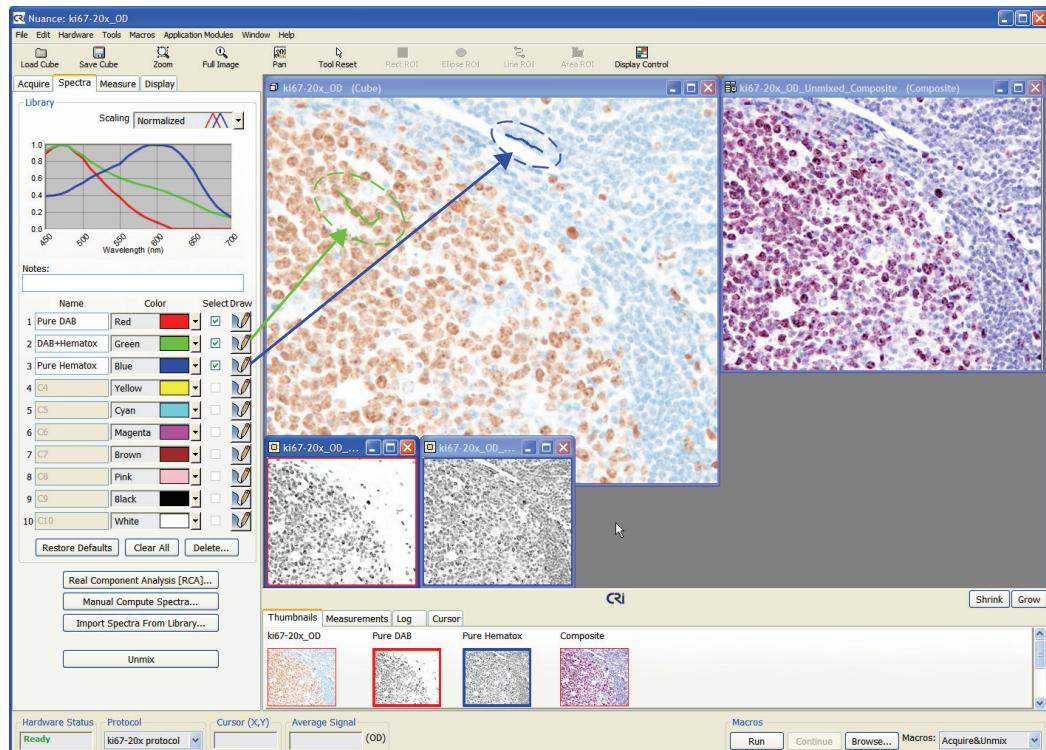

Figure 13. Counterstain and Label Spectra from a Brightfield Sample
- Obtain the hematoxylin (counterstain) signal of the tissue background from an area of pure (blue) counterstain only (blue spectrum, Label #3 in Figure 13).
- Obtain the mixed DAB signal plus hematoxylin from the nuclei that have both spectra (green spectrum, Label #2 in Figure 13).
- When computing pure spectra, observe the plots of the spectral curves in the Spectral Graph. Each plot should have a curve similar to that shown in Figure 13. In this sample, the **Scale** option was turned off during Manual Compute Spectra.